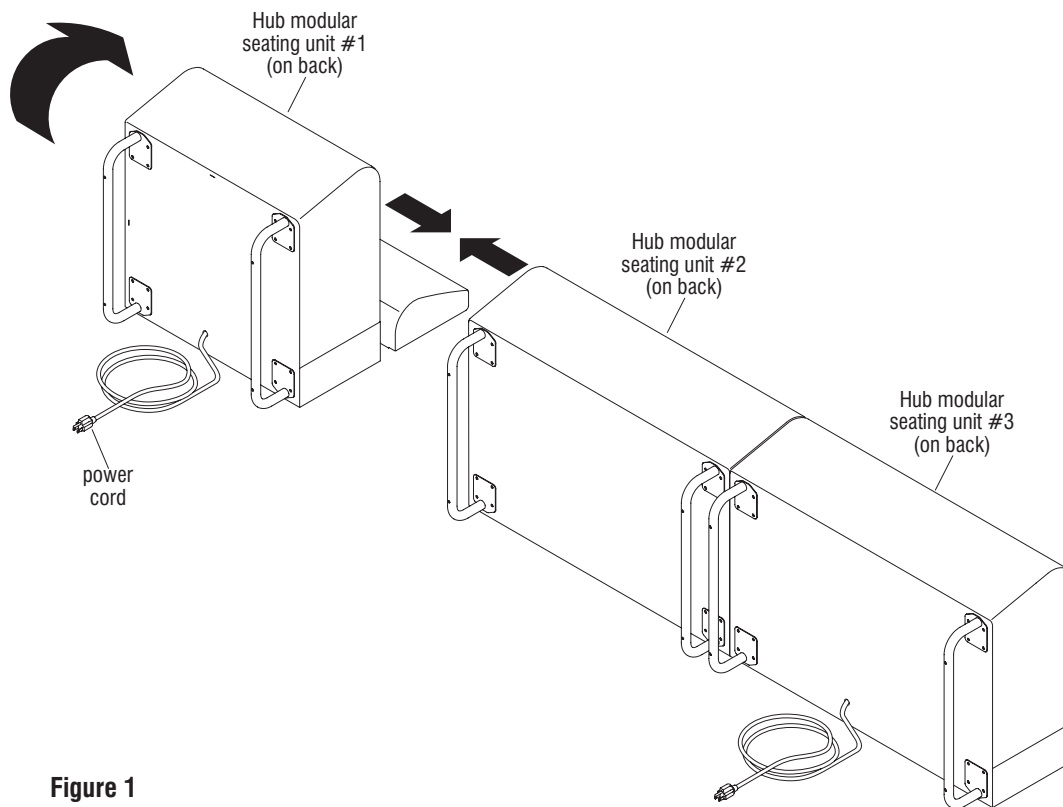

Figure 1
2. To gang side-to-side (in-line), carefully tip two or three seating units onto their backside on a soft protective surface to position for ganging (Figure 1).
3. Position Hub seating units together so that bottoms are aligned and flush (Figure 1).